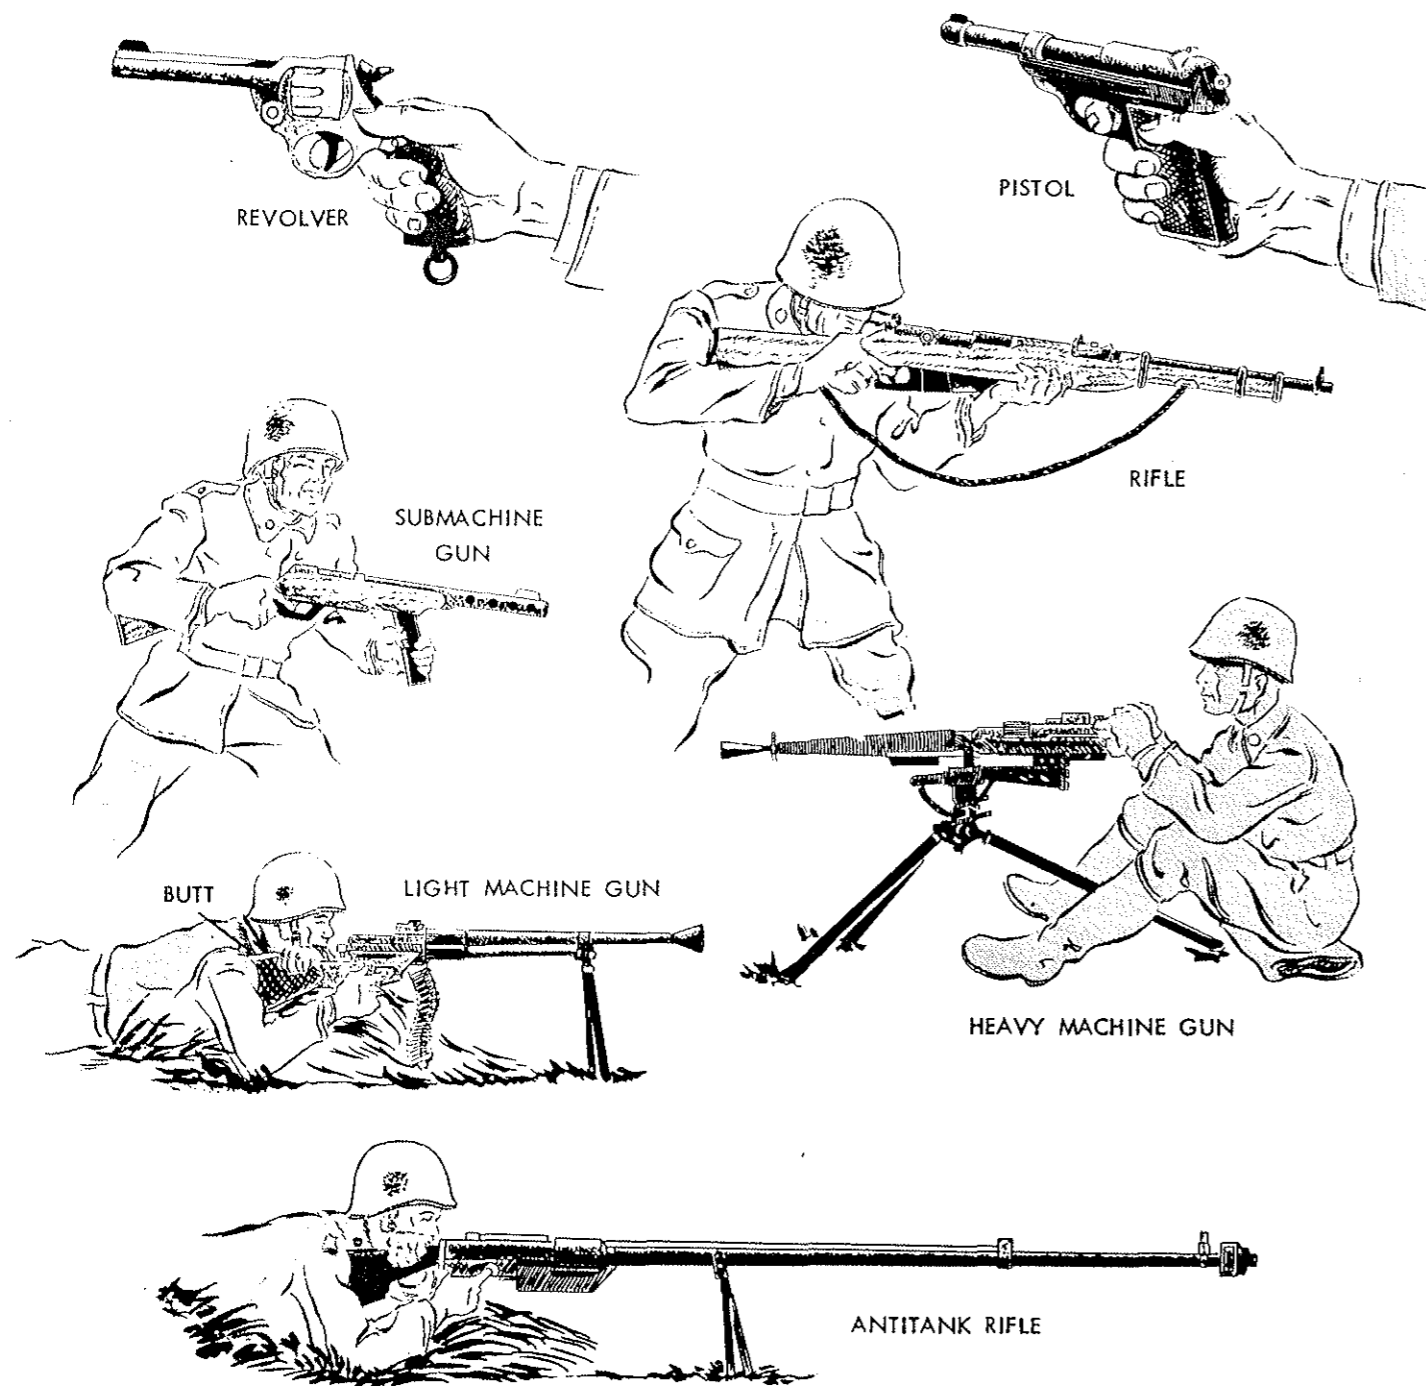

Figure 13.
Small arms may be classified in three main groups (fig. 13)—(1) pistols and revolvers; (2) rifles and carbines; and (3) submachineguns, machine guns (light and heavy), and automatic rifles. The first two groups are usually single-shot (manual or semiautomatic), while the third group consists of fully automatic weapons, generally with provision for alternative single-shot operation.
1. What is the official nomenclature, and of what type is the weapon (fig. 13)? What is its role? What is its caliber?
The basic difference between these well-known weapons is that the revolver ammunition supply is contained in a revolving cylinder while in the pistol the cartridges are carried in a magazine usually contained in the butt and are fed under the influence of a spring. A typical pistol is shown in figure 13.
7. Is the weapon an antitank rifle (fig. 13)? (This is
Machine guns may be light or heavy. Light and heavy machine guns differ chiefly in role and weight. Light machine guns are normally of rifle caliber (cal. .256—cal. .315), belt-fed, and are provided with a bipod. Heavy machine guns are provided with more stable mounts and are sometimes of larger than rifle caliber (cal. .256—cal. .60). A dual-purpose machine gun is one that can be used as either a light or a heavy machine gun by merely changing the type of mount. In United States nomenclature, automatic rifles are similar to the weapon shown in figure 13, but are magazine fed. Submachineguns are hand-held weapons capable of automatic fire. Sometimes they are equipped with a selector to permit either automatic or semiautomatic fire. Submachineguns usually fire pistol cartridges.
- a. A butt, as shown in figure 13.